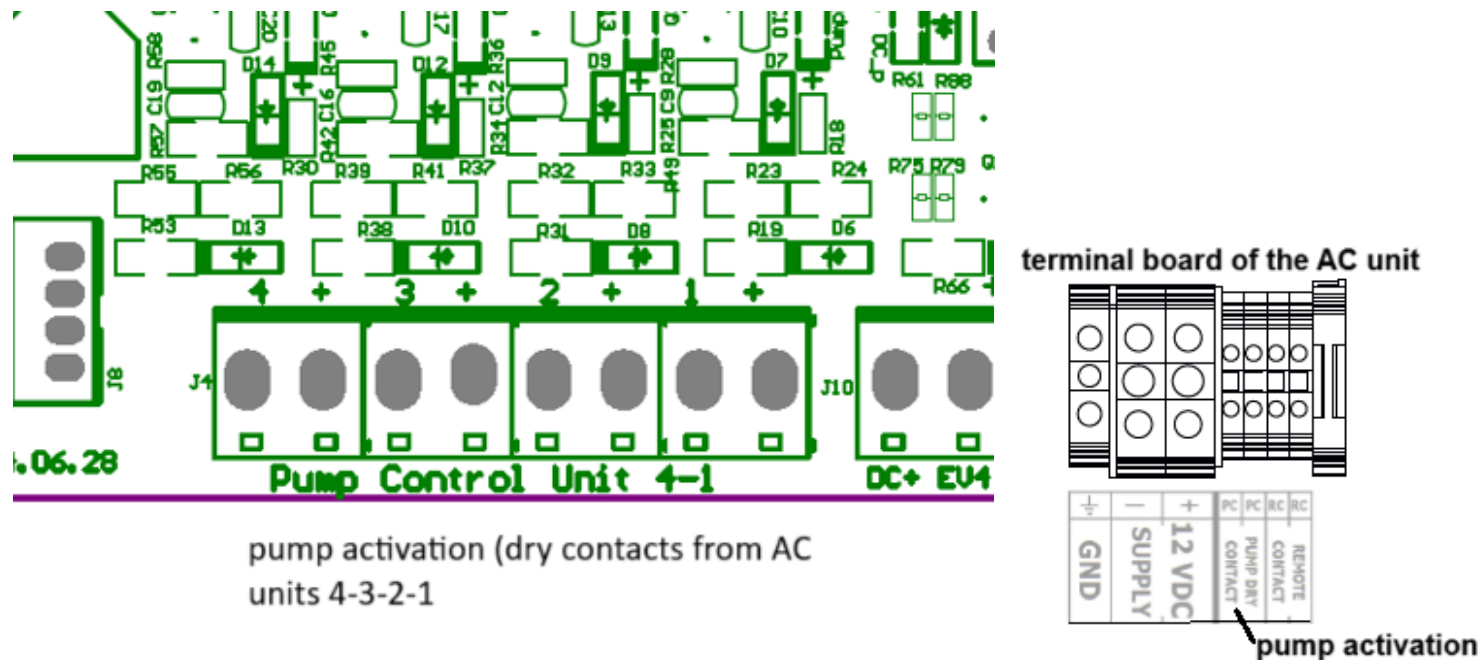

Figure 9: PCB (control device) connection to every AC unit (dry contact for pump activation)
- Figure 9: PCB connection to AC units